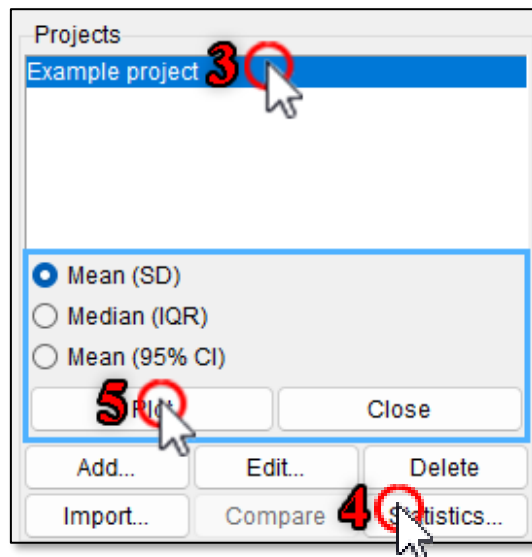

Figure 46
3. Choose a project by left clicking on it in the side panel's project module (Figure 46).
4. Click the “Statistics...” button (Figure 46).
5. Select the statistical method to be used and click the “Plot” button (Figure 46).